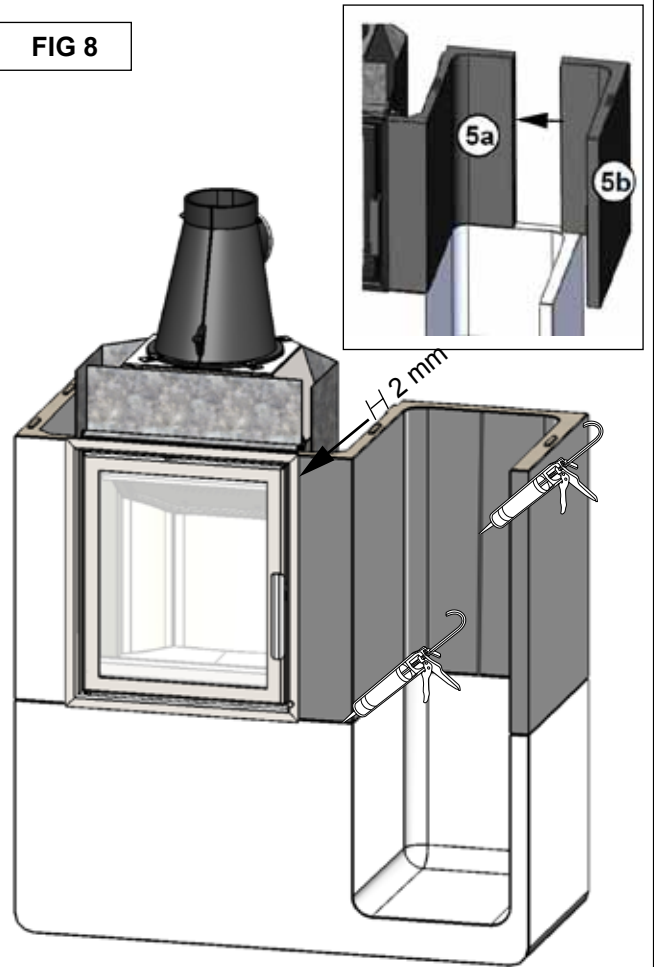

FIG 9 T
**FIG 9:** Place the heatshield around the flue. When connected at the top, let the heatshield remain intact. When connected at the rear, carefully remove the perforated area in the heatshield and place it around the flue.